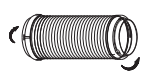
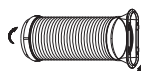

Fig.16
Fig.17
1. Install the window Exhaust adaptor B onto the exhaust hose as shown in Fig.16. or Fig.17. Refer to the previous pages for window kit installation.